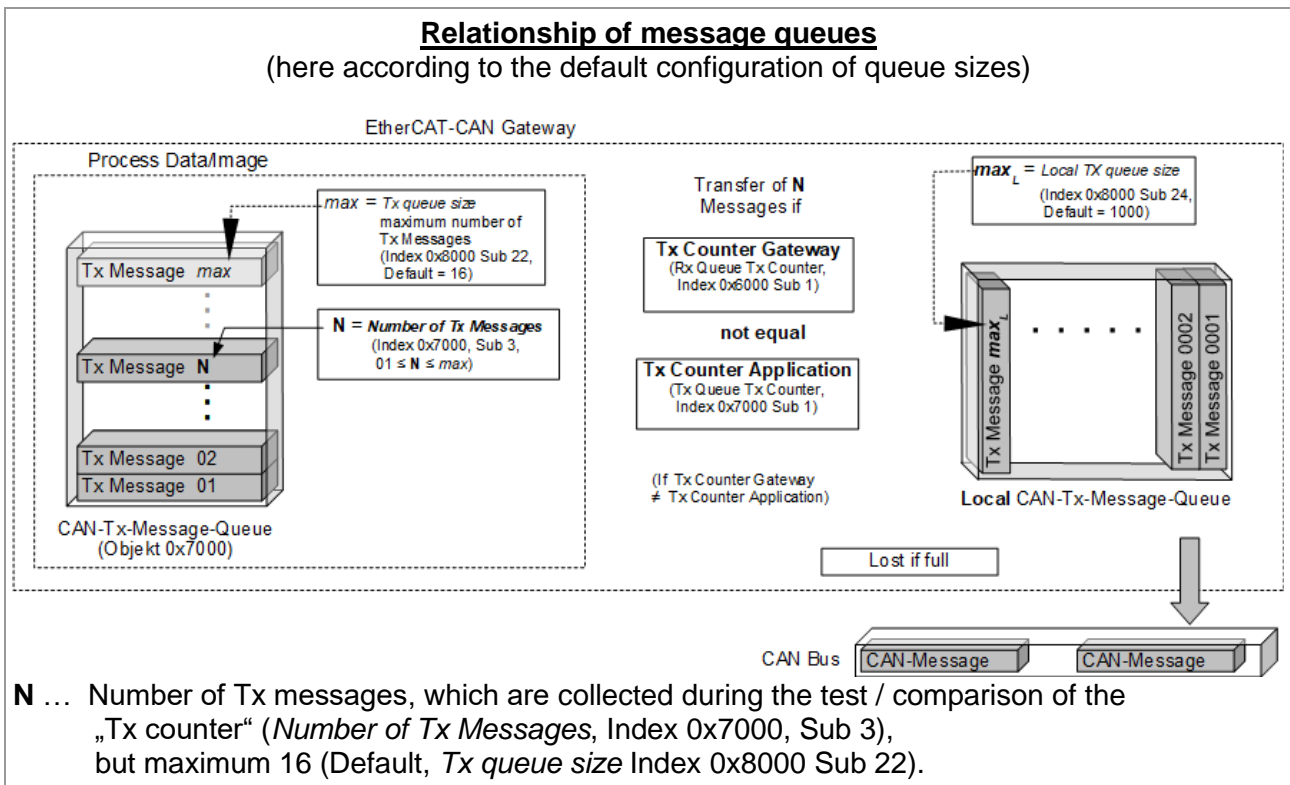
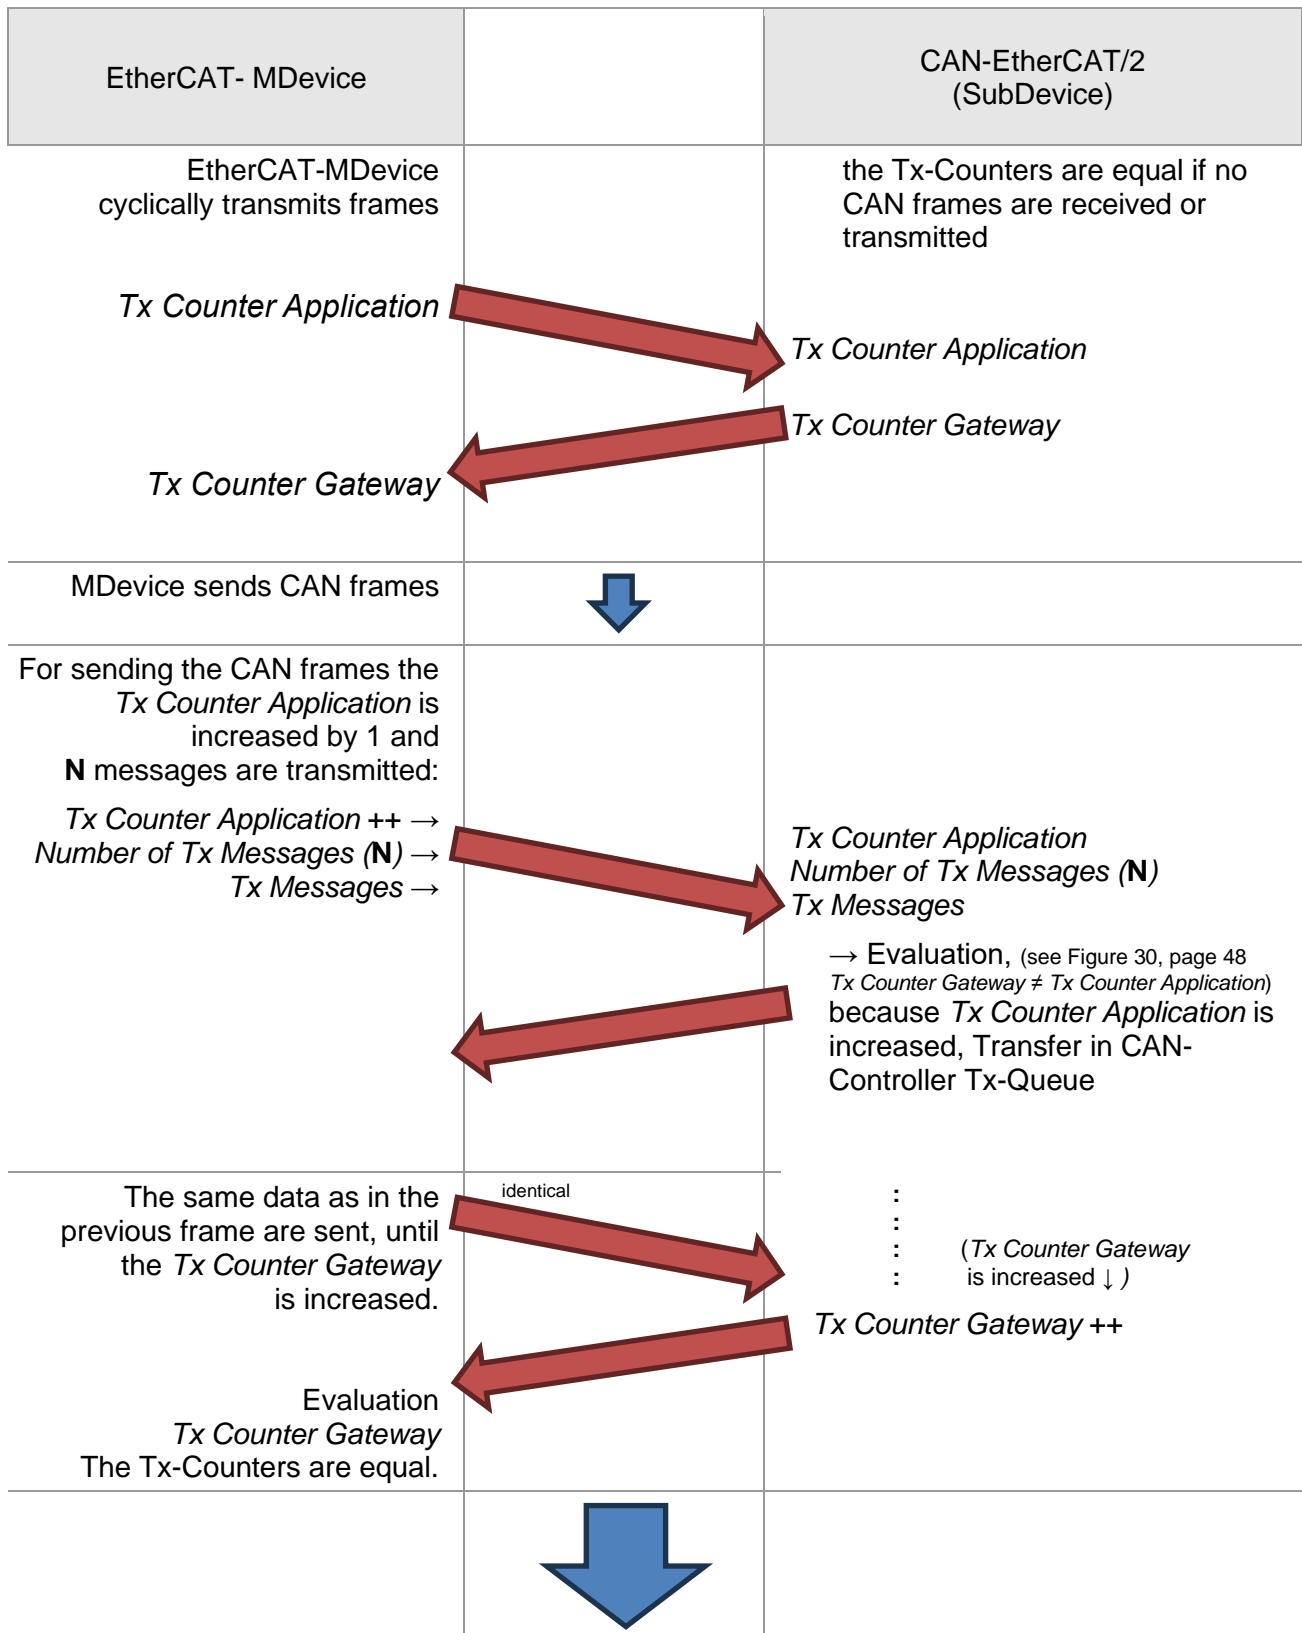

Figure 30: Relationship of the CAN Tx message queues
Figure 31: Chronological Sequence Tx-Counter
- Tx Counter Gateway* The Tx counter is incremented by the Gateway to indicate that the CAN Tx messages were copied from the output data to the local CAN send queue (see Figure 30).
Tx Counter Gateway The Tx counter is incremented by the Gateway to indicate that the CAN Tx messages were copied from the output data to the CAN send queue (see Figure 30).
- Tx Counter Gateway* The Tx counter is increased by the Gateway to indicate that the CAN Tx messages were copied from the output data to the CAN send queue (see Figure 30).
The number of effectively transmitted Tx messages (**N**) is written in *Number of Tx Messages* (Sub-Index 3) and will not be changed until the "Tx Counters" are equal again. For the chronological sequence see the example in Figure 31 on page 50.
- Tx Counter Application* This counter must be incremented when or after writing the CAN Tx message to the output data (see Figure 30).
See Figure 30 for the relationship of the CAN-Tx-Message-Queues. For 29-Bit-Identifiers objects 0x6001 and 0x7001 are used instead of objects 0x6000 and 0x7000 accordingly.
For the chronological sequence see the example in Figure 31 on page 50.
Tx Counter Application This counter must be increased when or after writing the CAN Tx message to the output data (see Figure 30).
This object can only be used with the CAN FD variant CAN-EtherCAT/2-FD. It contains the CAN FD interface output messages. See Figure 30 for the relationship of the CAN-Tx-Message-Queues. For CAN FD objects 0x6002 and 0x7002 are used instead of objects 0x6000 and 0x7000 accordingly. For the chronological sequence see the example in Figure 31 on page 50.
Tx Counter Application This counter must be incremented when or after writing the CAN Tx message to the output data (see Figure 30).